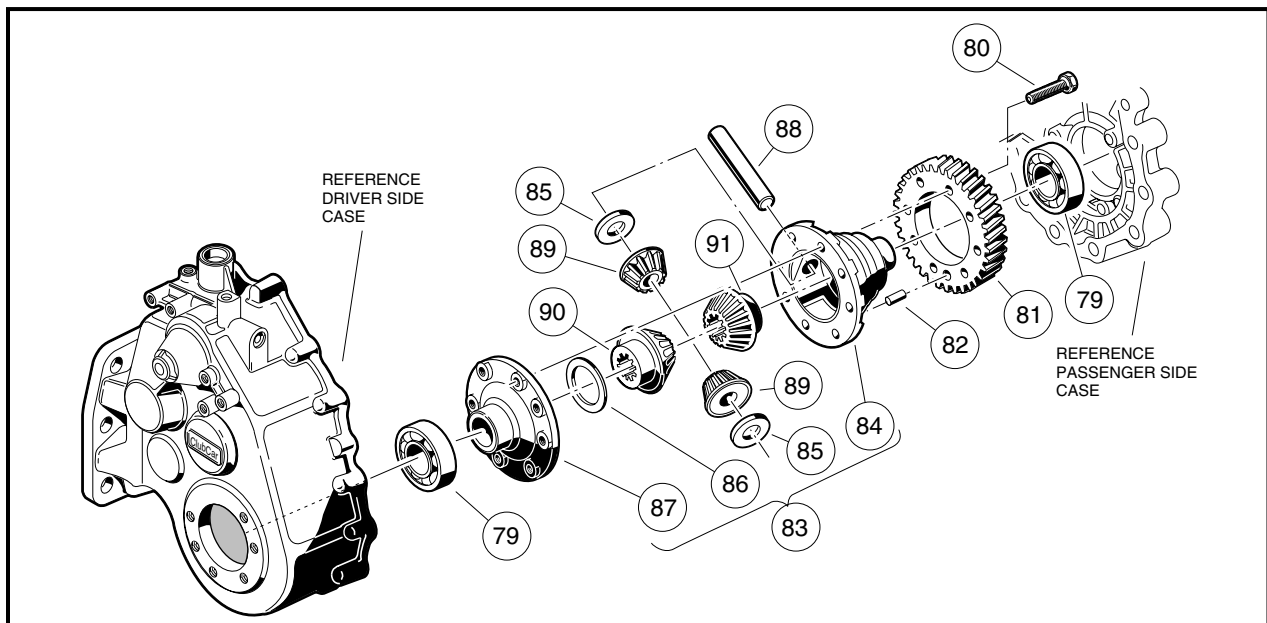
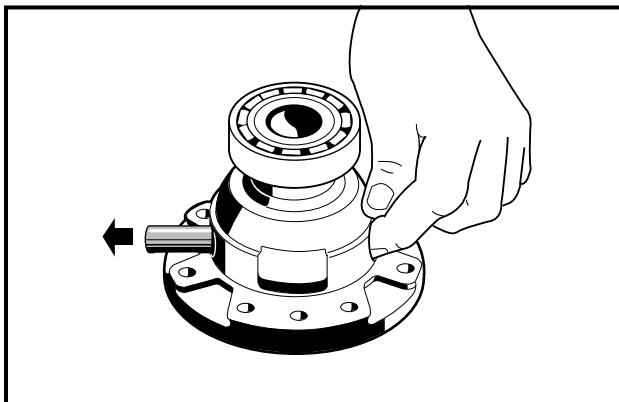
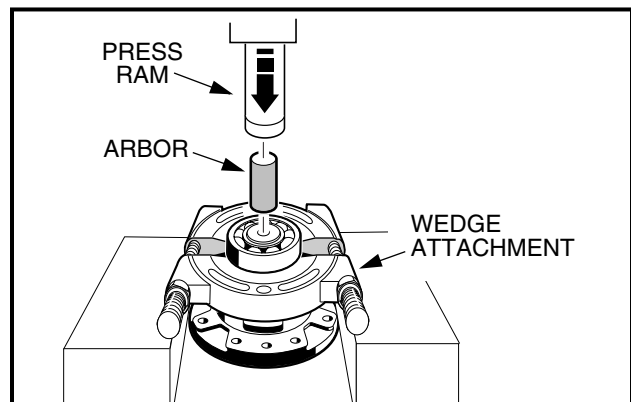

Figure 5-14 Differential Gear Case
Figure 5-16 Differential Pin
Figure 5-17 Remove Bearing
1. Remove eight ring gear retaining bolts (80) and remove the ring gear from the assembly (**Figure 5-14, Page 5-9**).
3. Pull the cover (87) and thrust plate (86) from the differential gear carrier case (**Figure 5-14, Page 5-9**).
4. Remove the differential gear (90) from the differential gear carrier case.
5. Remove the differential pin (88) by pushing it through from one side (**Figure 5-14, Page 5-9**). Remove the two differential idler gears (89) and two idler gear thrust plates (85) as the pin is driven through (**Figure 5-16, Page 5-10**).
6. Remove the differential gear (91) from the carrier case (**Figure 5-14, Page 5-9**).
7. If the bearings (79) are to be removed, place a bearing puller wedge attachment (CCI P/N 1012812) between the bearing and gear case (84) and press the bearing off (**Figure 5-14, Page 5-9 and Figure 5-17, Page 5-10**). Repeat the process for the bearing on the carrier cover (87). See following **CAUTION**.